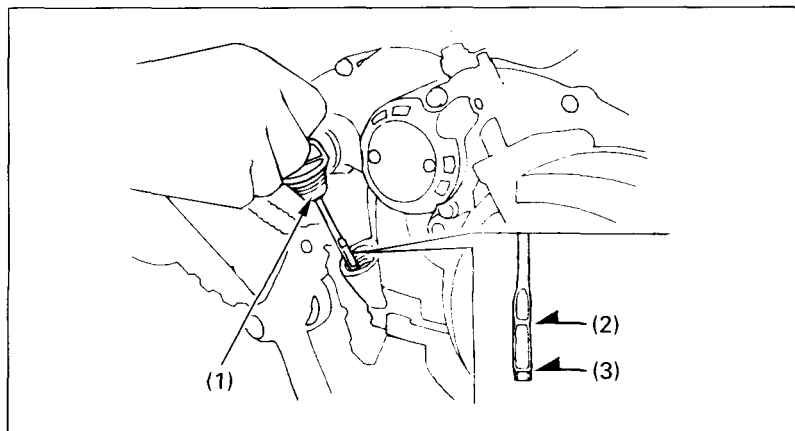

Fig. 4-10 (1) Oil filler cap/dipstick
4. After a few minutes, remove the oil filler cap/dipstick (Fig. 4-10) from the right crankcase cover and wipe it clean.
5. Insert the dipstick without screwing it in, then remove the dipstick and check the oil level. The oil level should be between the upper level mark (2) and the lower level mark (3) on the dipstick.
1. With the FOURTRAX on level ground, remove the oil filler cap/dipstick from the right crankcase cover (Fig. 4-10).